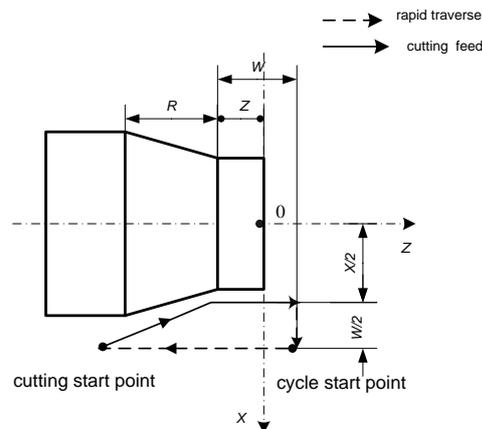

Figure II-28 Use of G94 (taper facing cycle)
- 3 R is displacement component in Z direction (facing start point to end point). The taper facing cycle process is as shown in Figure II-28. If the path is such that the Z axis is of negative direction, R is negative; otherwise R is positive.